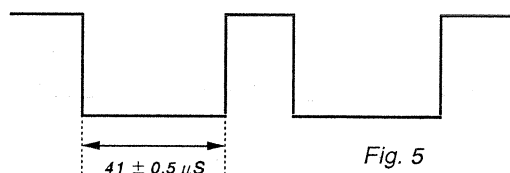

Fig. 5
- 5) Connect the oscilloscope probe to IC503 Pin 7, then adjust **H DELAY** so that the waveform is as in Fig. 5.